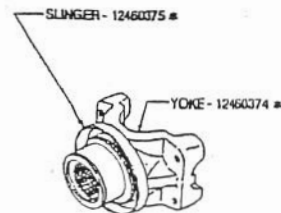

FIGURE 3
- G. INSTALL 12460376 SLINGER ON 12460374 YOKE AS SHOWN IN FIGURE 3 AND INSTALL ON REAR DIFFERENTIAL AND SECURE WITH 12460376 NUT. (REFER TO TM 9-2320-280-34.)